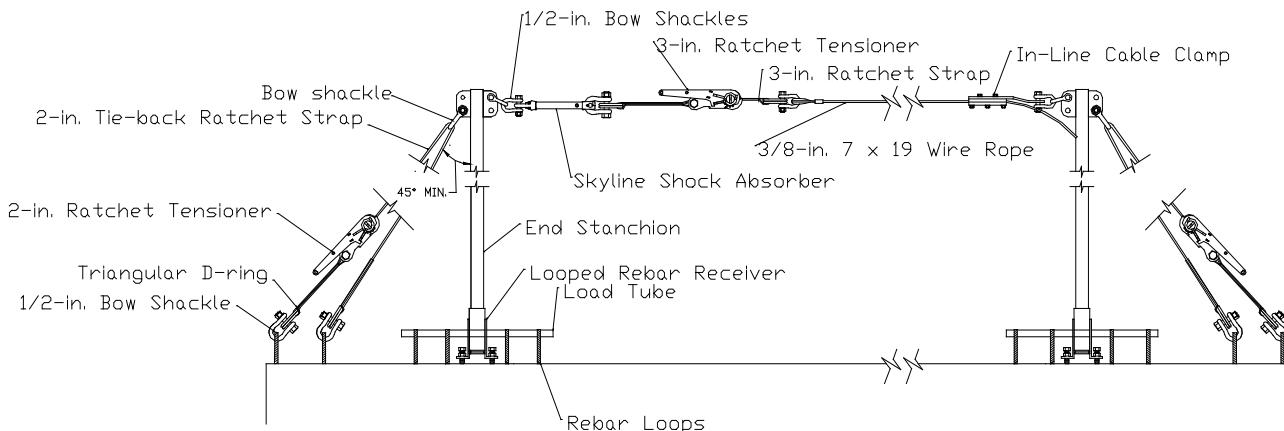

Figure 1b
1. Remove the Receiver Load Tube bolt and Load Tube from the Looped Rebar Receiver (see Figure 1a or Figure 1b for parts identification). Place Receiver between rebar loops. Note: Rebar loops must be Grade 40 or Grade 60 rebar, Size 4 (1/2-in.) or larger.
12. Pass the 2-in. Ratchet Strap up through the 5/8-in. bow shackle that is attached to the end stanchion and then thread it into the mandrel of the Ratchet Tensioner and ratchet until tight (see Figure 1b). Verify that the webbing makes AT LEAST one full revolution on the mandrel. If it does not, release the load, pull a couple of inches of strap out, and then retighten to achieve the minimum one full wrap of webbing on the mandrel.
14. Repeat Steps 1 through 8 to install Looped Rebar Receivers with Bypass Stanchions at the correct location as required for your particular horizontal lifeline design. If there are ANY questions regarding the design or suitability of a horizontal lifeline in a particular situation, call Reliance Engineering at (303) 424-8650, BEFORE proceeding with the setup or use of any lifeline.